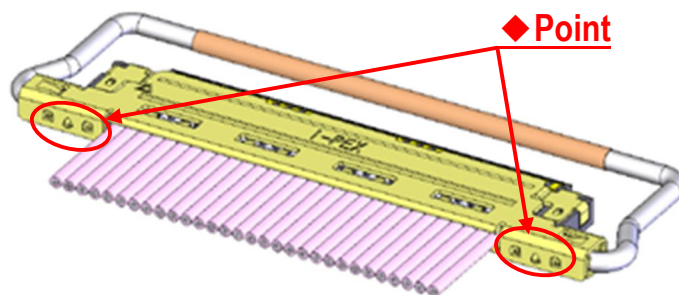

Fig.10 Soldering of Shell-A and Shell-B
- ④ Soldering shell-A and shell-B with the soldering iron at all designated points is recommended. (Fig.10 ◆ point)